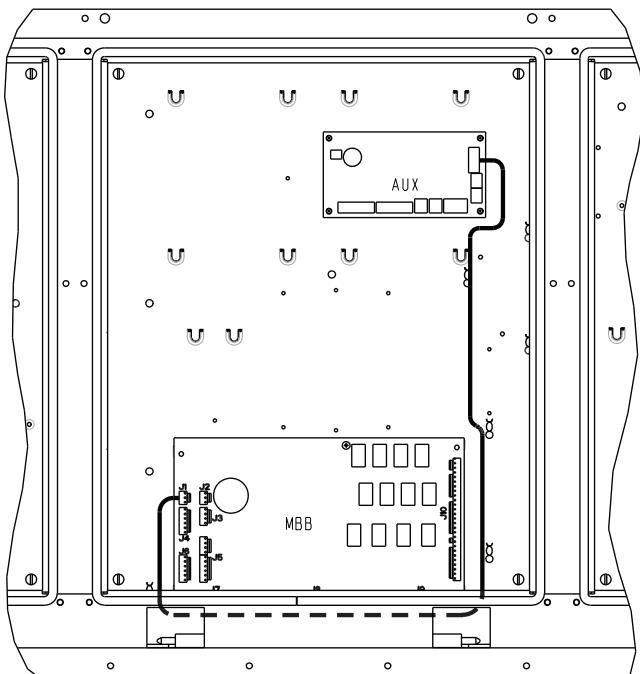

Fig. 14 — AUX Board Installation Location — 38APD, S040-060 Units
7. If the unit already has an AUX board installed, skip to Step 9. Install AUX board (Item 14) using 4 AC41AB100 screws (Item 16) provided. See Fig. 14. Set DIP switch 2, 5, and 7 = ON. See Fig. 2.